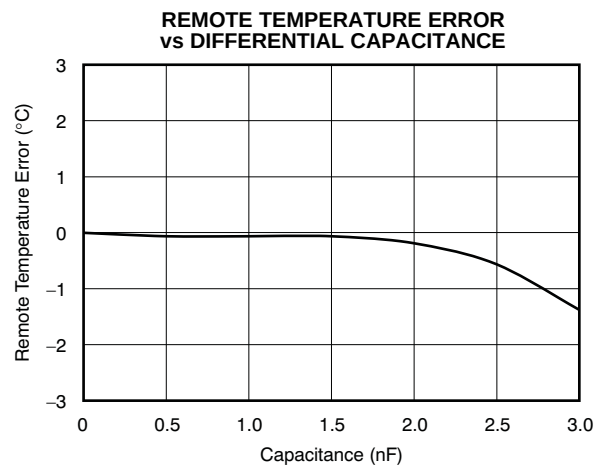

Figure 6.
(3) C_{DIFF} (optional) should be $< 1000\text{pF}$ in most applications. Selection of C_{DIFF} depends on application; see the Filtering section and Figure 6, Remote Temperature Error vs Differential Capacitance.
- (1) Diode-connected configuration provides better settling time. Transistor-connected configuration provides better series resistance cancellation.
- (2) R_S (optional) should be $< 1.5k\Omega$ in most applications. Selection of R_S depends on application; see the Filtering section.
- (3) C_{DIFF} (optional) should be $< 1000pF$ in most applications. Selection of C_{DIFF} depends on application; see the Filtering section and Figure 6, *Remote Temperature Error vs Differential Capacitance*.
- (4) TMP422 SMBus slave address is 1001 100 when connected as shown.
The TMP421/22/23 tolerate differential input capacitance of up to 1000pF with minimal change in temperature error. The effect of capacitance on sensed remote temperature error is illustrated in Figure 6, *Remote Temperature Error vs Differential Capacitance*.